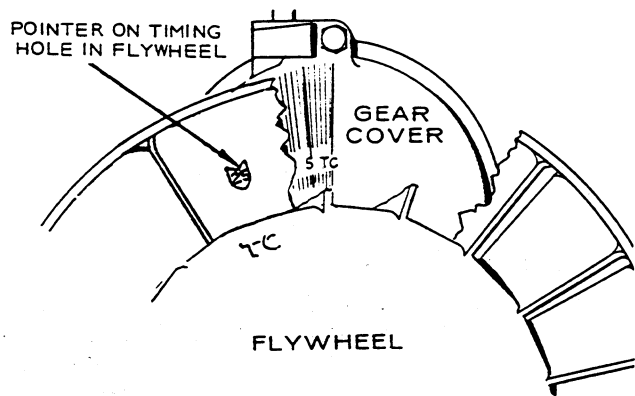

FIGURE 23. FLYWHEEL TIMING HOLE
2. Start the engine and check the timing. The pointer on the flywheel should line up with the 25° mark on the cover. The timing hole through the flywheel and the timing marks on the timing gear cover can be seen by looking through the flywheel blower screen. See Figure 23.